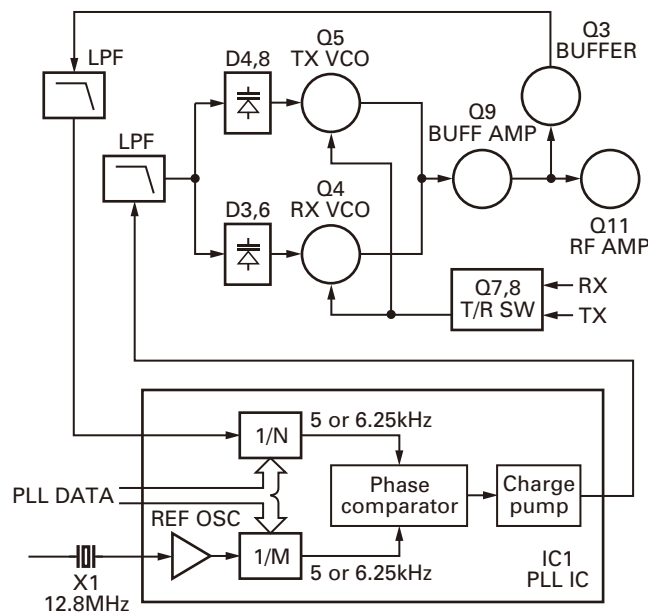

Fig. 5 PLL circuit / 图 5 PLL 电路
A 12.8MHz reference oscillator signal is divided at IC1 by a fixed counter to produce an oscillator (VCO) output signal which is buffer amplified by Q3 then divided in IC1 by a programmable counter. The divided signal is compared in phase with the 5 or 6.25kHz reference signal from the phase comparator in IC1. The output signal from the phase comparator is filtered through a low-pass filter and passed to the VCO to control the oscillator frequency. (See Fig. 5)
12.8MHz 的参考振荡信号在 IC1 中被一个固定计数器分频。振荡器 (VCO) 的输出信号由 Q3 缓冲放大，然后在 IC1 中被一个可编程双模块计数器分频。分频的信号在 IC1 的相位比较器中进行比较。生成的信号通过一个低通滤波器滤波后传送到 VCO 控制振荡器频率。(见图 5)